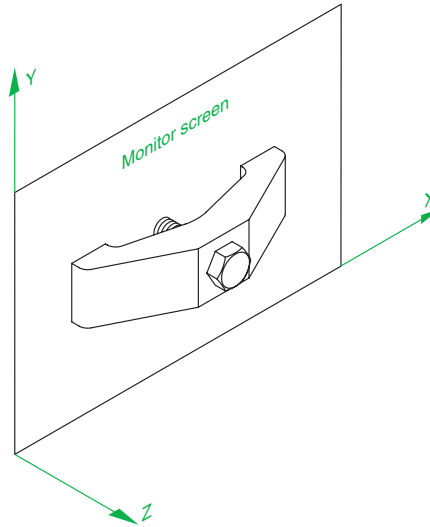

Fig. 1.21 A 3D model drawing showing the X, Y and Z coordinate directions
3D coordinates include a third coordinate (Z), in which positive Z units are towards the operator as if coming out of the monitor screen and negative Z units are going away from the operator as if towards the interior of the screen. 3D coordinates are stated in terms of x,y,z . $x,y,z = 100,50,50$ is 100 units to the right of the origin, 50 units above the origin and 50 units towards the operator. A 3D model drawing as if resting on the surface of a monitor is shown in Fig. 1.21.